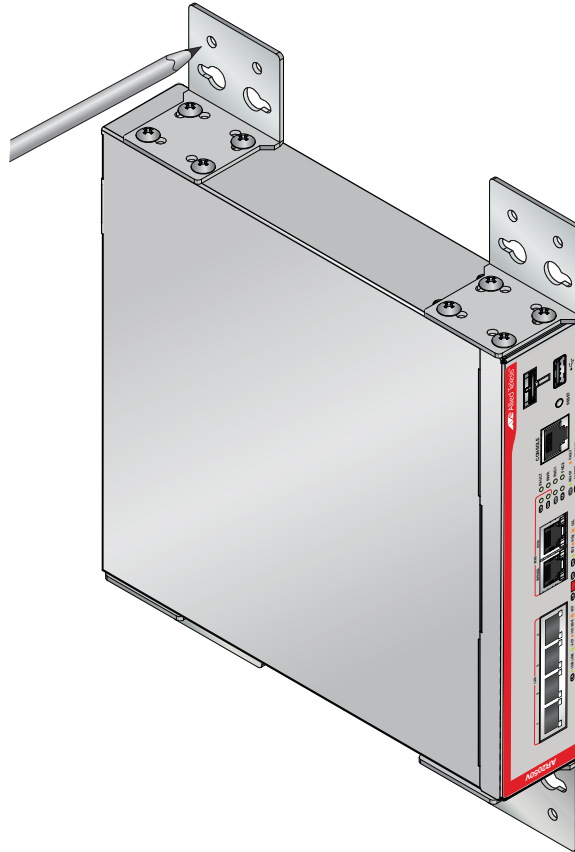

Figure 29. Marking the anchor hole location
4. Have another person hold the router at the wall location where the router is to be installed, while you use a pencil or pen to mark the wall with the locations of the holes in the brackets. The router should be oriented such that its front faceplate is facing to the left or right, and is exactly vertical. See Figure 29.